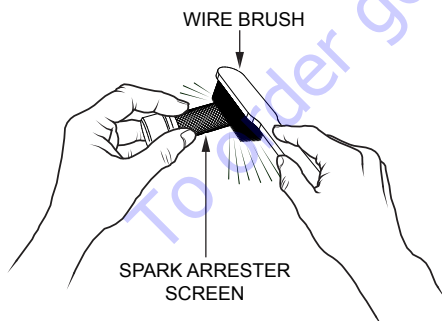

Figure 27. Cleaning The Spark Arrester
4. Carefully remove carbon deposits from the spark arrester screen (Figure 27) with a wire brush.